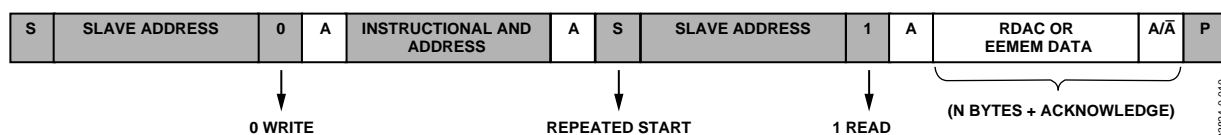

Figure 30. RDAC or EEMEM Random Read
Figure 30 illustrates a random RDAC or EEMEM read operation. This operation allows users to specify which RDAC or EEMEM register is read by issuing a dummy write command to change the RDAC address pointer and then proceeding with the RDAC read operation at the new address location.
3. In current read mode, the RDAC0 data byte immediately follows the acknowledgment of the slave address byte. After an acknowledgment, RDAC1 follows, then RDAC2, and so on. (There is a slight difference in write mode, where the last eight data bits representing RDAC3 data are followed by a no acknowledge bit.) Similarly, the transitions on the SDA line must occur during the low period of SCL and remain stable during the high period of SCL (see Figure 34). Another reading method, random read method, is shown in Figure 30.